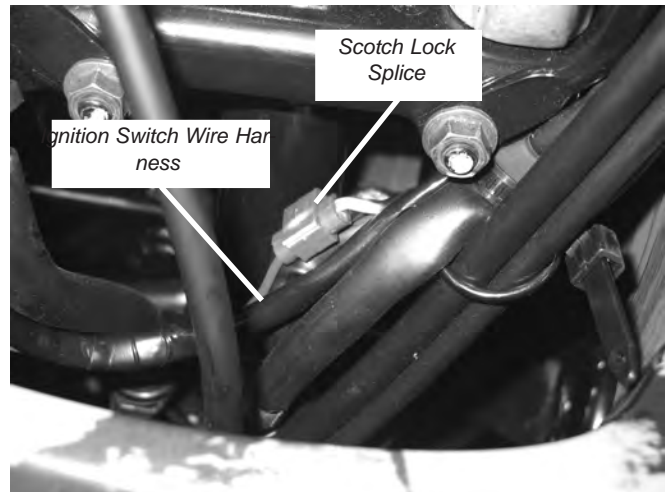

Figure 30 Connecting Switch - Red Wire
d. Locate the ignition switch wire harness in front of the steering column, figure 30. Cut back the harness protective cover and splice the red switch wire, using the scotch lock supplied in the mounting kit, into the pink wire located in the ignition switch wire harness. Before making the splice, make sure that the pink wire only has power when the key switch is on. Trim the red switch wire excess approximately 20cm (8 in). Retape with electrical tape.